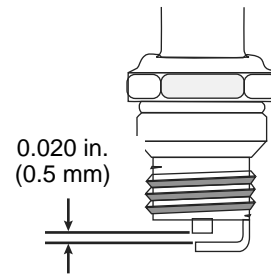

Fig. 28
3. Replace a cracked, fouled or dirty spark plug. Set the air gap at 0.020 in. (0.5 mm) using a feeler gauge (Fig. 28).